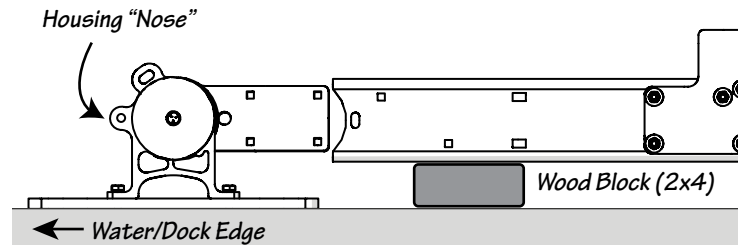

Fig. 7-2
- Before attaching the ladder to the base it maybe helpful to place a block of wood (2x4) under the Nauti Dock Ladder as shown in Fig. 7-2.